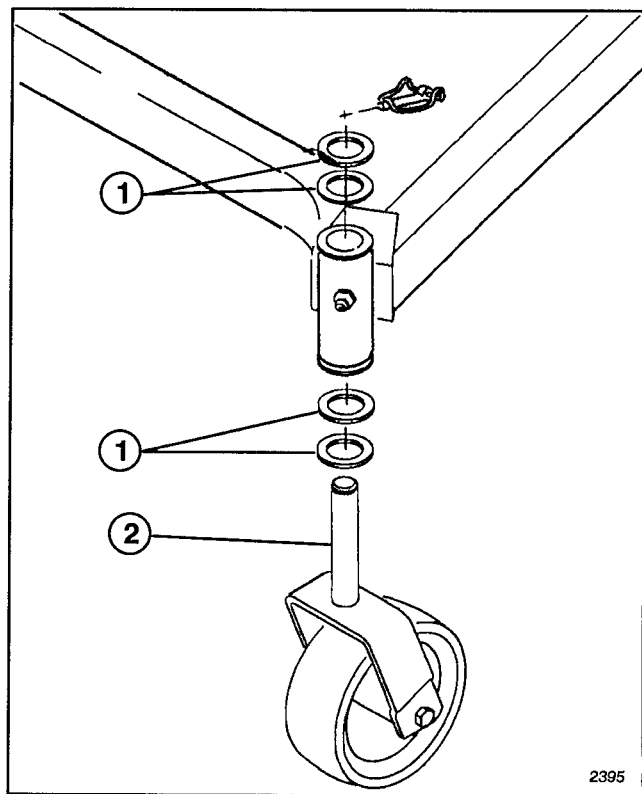

Figure 28
3. To change front-to-rear pitch move equal number of thrust washers on both front castor shafts. Move thrust washers from top to bottom to raise, or bottom to top to lower pitch (Fig. 28).
3. To change side-to-side leveling move thrust washers on one front castor shaft only. Move thrust washers from top to bottom to raise, or bottom to top to lower (Fig. 28).